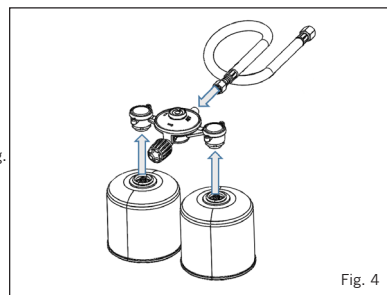

Fig. 4
- Insert the two gas cartridges onto the unit by screwing them in place (Fig. 4).